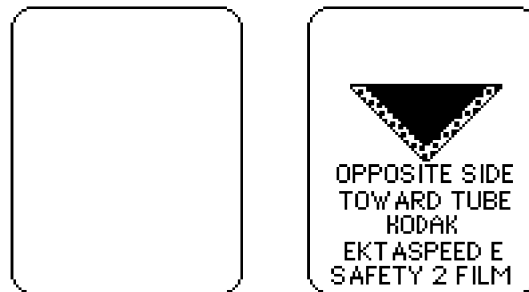

Figure 1-1. The film packet, front and back, on which to locate the dot.
1. Ia (i) Note and record (or make an illustration of) the position of the embossed dot on the non-tube side of the film (Figure 1-1).
1. Ia (ii) Note and record the position of the embossed dot on the tube side of the film (Figure 1-1). (The convex side of the raised dot should always face the radiation source.)